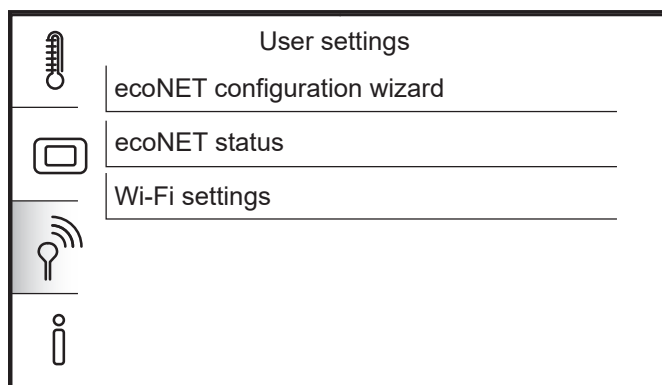

Figure 10-6: ecoNET connection options.
3. Tap the Wi-Fi icon on the left. Refer to Figure 10-6.